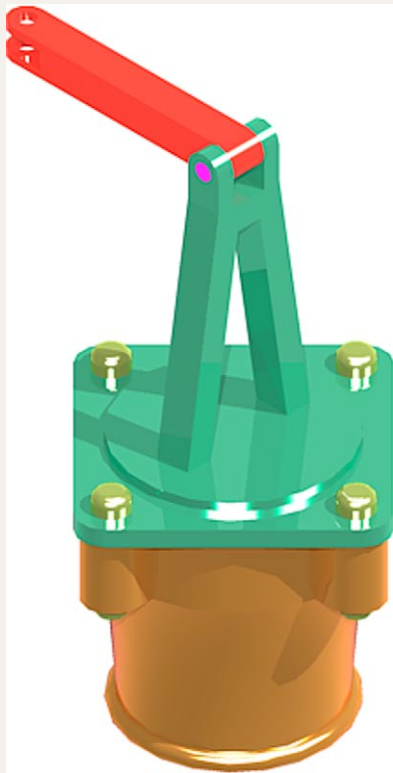
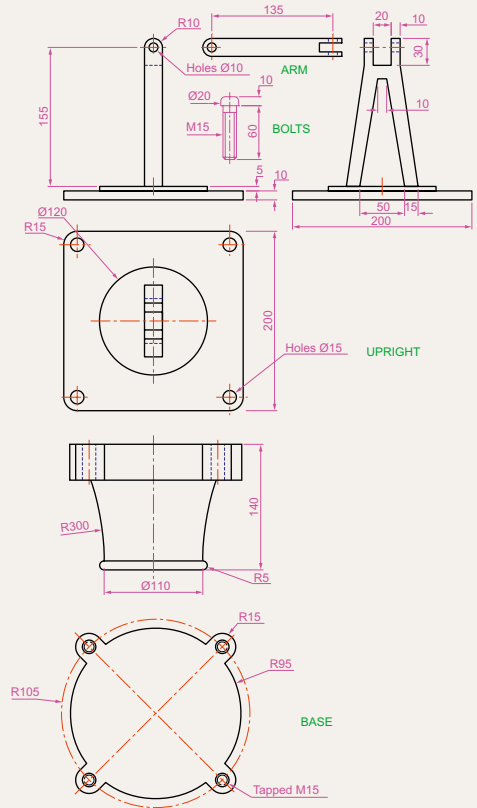

Fig. 18.24 Exercise 3
Fig. 18.25 Exercise 3 – the parts drawing
- 3. Construct the 3D model shown in the rendering (Fig. 18.24) from the details given in the parts drawing (Fig. 18.25).